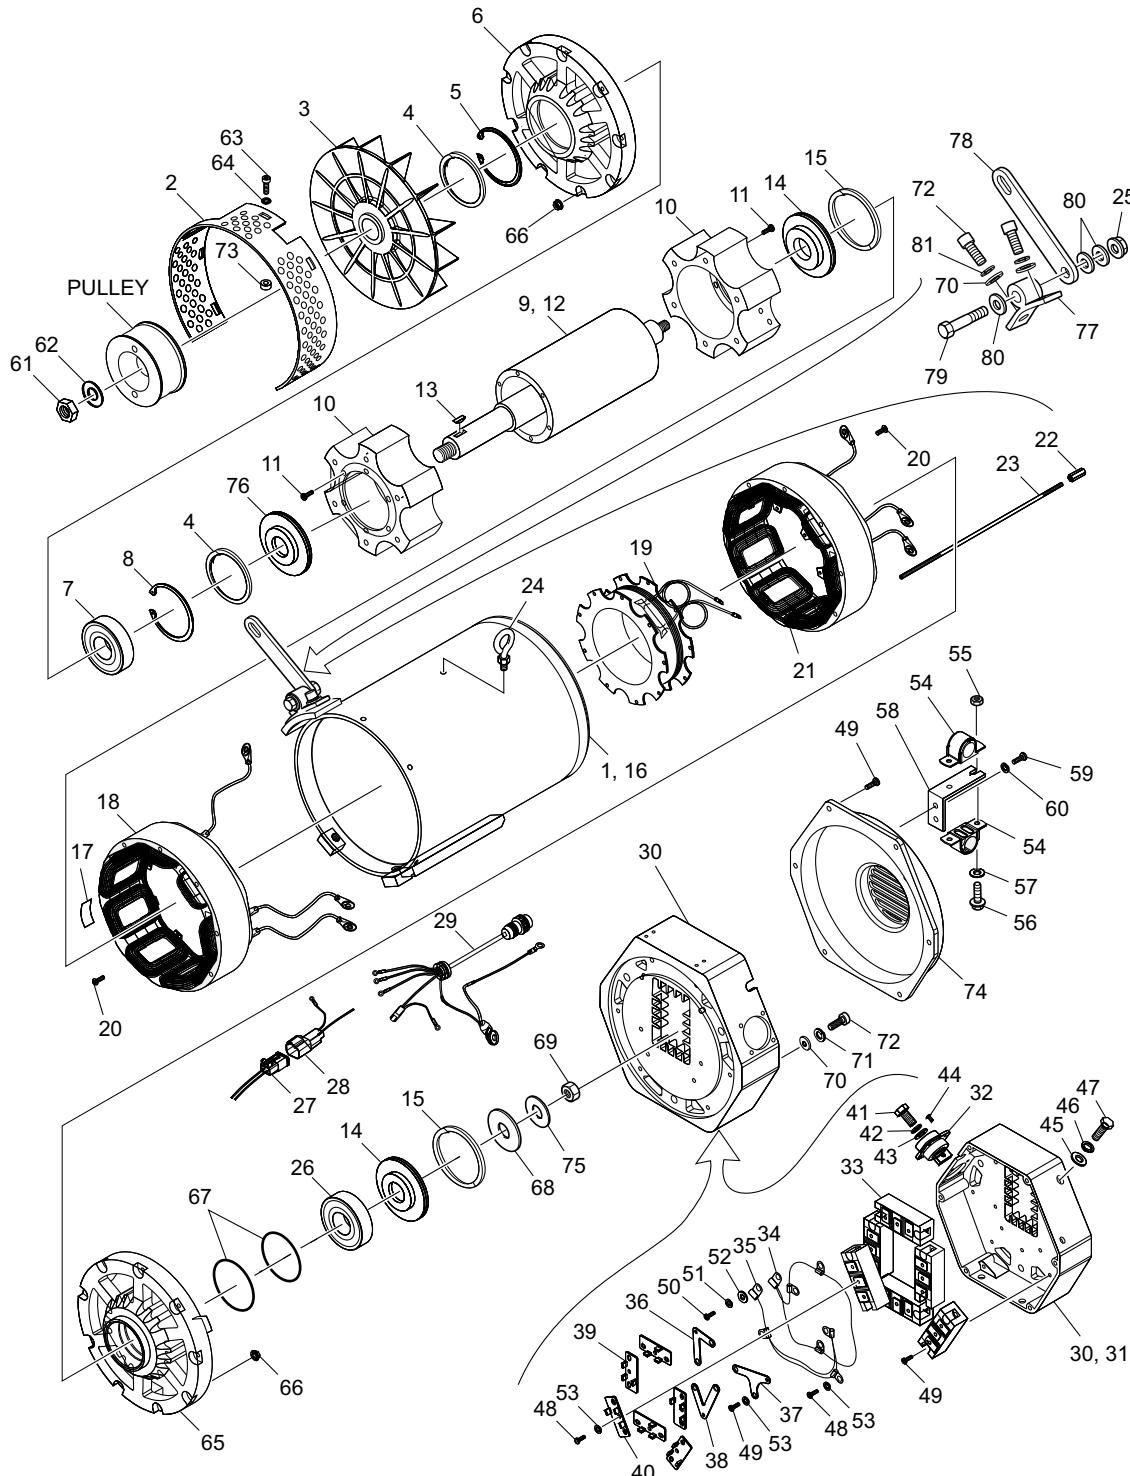

Fig. 9-14: Alternator Assembly
2. Remove pulley nut, pulley, woodruff key, from the alternator Drive End (DE). *See "Fig. 9-14: Alternator Assembly" on page 24.*